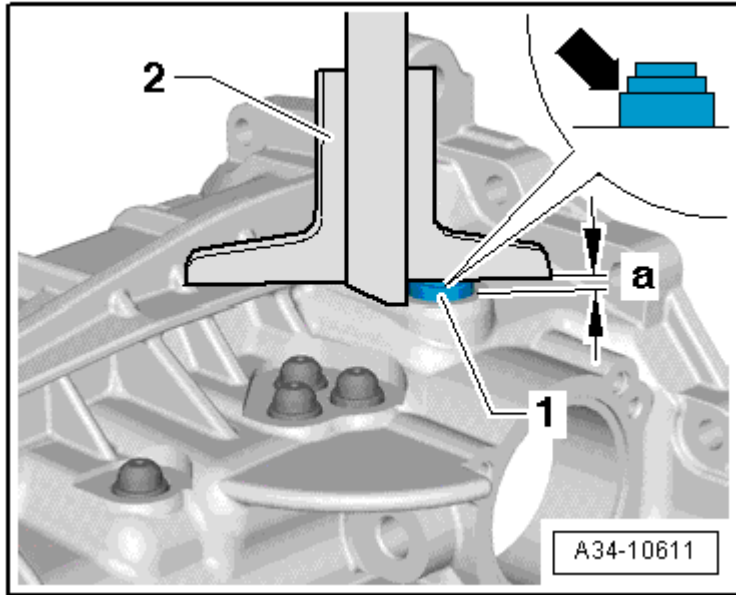

Fig. 56: Installed Dimension For Large Locking Bushing -1- Inside Transmission Cover
- Installed dimension, refer to **Fig. 56**
- Install the locking bushing using the T40085 to the installation dimension. Refer to **Fig. 56**.